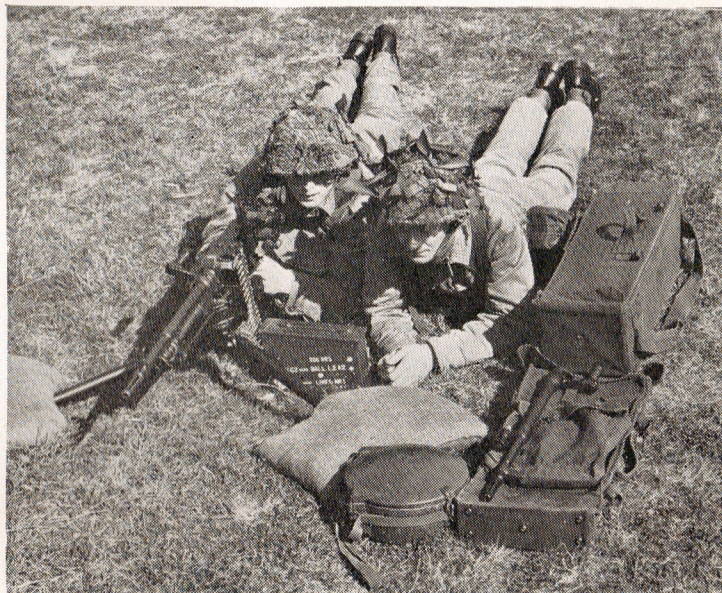

Fig 7.—Loading position
b. The gunner is to adopt a position to the left rear of the gun—left hand on the pistol grip, right hand on the deflection drum. The No. 2 should place himself on the left of the gunner, where he can best perform such duties as loading, observing fire, etc. (see Fig. 7).